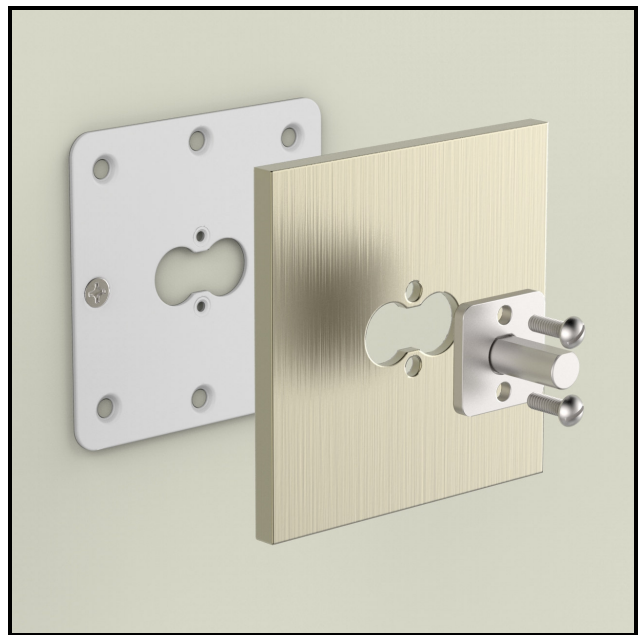

Figure 18
- On lower end (non-electrified end), install large optional backplate and mounting post with included screws (Figure 18).